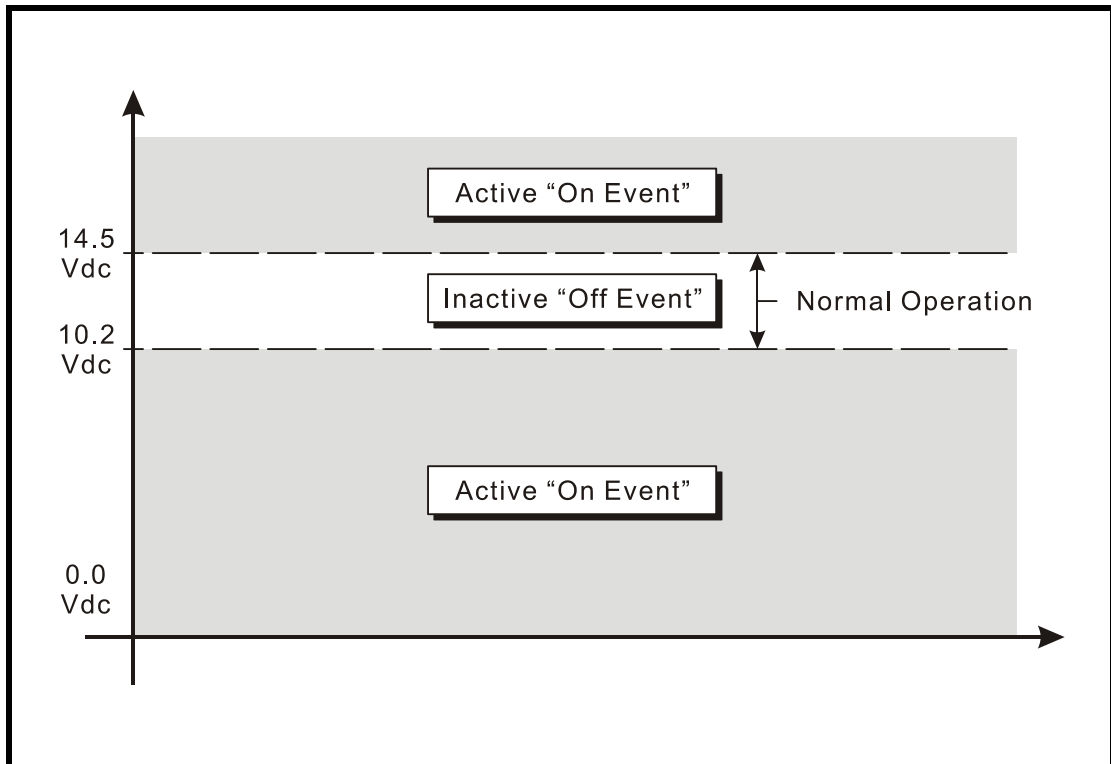

Figure 4 - Analog Input Operating Regions vs. Limit Values
Figure 4 illustrates the relationship of the Low and High Limit Values to the Analog Input state. Each region defines the type of Event Record that is created by transitions of the input. The figure depicts an Analog Input configured to monitor a typical 12Vdc battery source. The figure indicates that the unacceptable region includes all voltages less than 10.2Vdc and all voltages greater than 14.5Vdc. The unacceptable region always consists of two portions separated by the acceptable region. If the input is within the range extending from 10.2 to 14.5Vdc the battery voltage is considered to be acceptable.
- **On:** The Digital Input voltage is in the range from 5 to 40Vdc. The Analog Input level is outside the acceptable range as defined by the region between the Limit Values (refer to Figure 4 on page 28). The Virtual Input evaluates to a true logic state. The Timer Input has reported a timed interval that is either too fast or too slow as compared to its assigned Low and High Limit Values, respectively (refer to the section entitled "Timer Inputs (W)" on page 29).